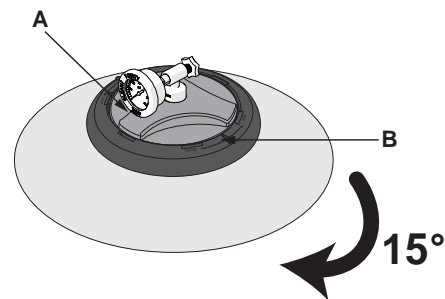

Figure 10. Tighten Lid (A) Then Hand Wheel (B)
2. Insert the lid into the filter until it drops home. Turn the lid 15° in a clockwise direction (A), then turn the hand wheel (B) as far as it will go in clockwise direction. Fig. 10